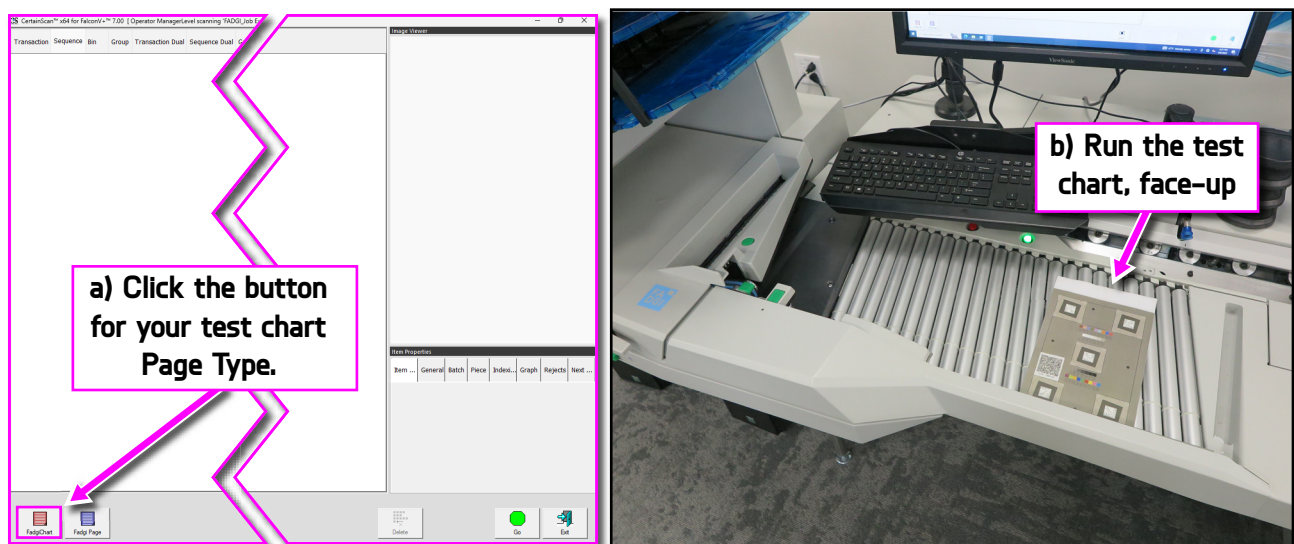

Figure 3-35: Scan the test chart face up
5. Click the button for the test chart Page Type. Scan the test chart face up (Figure 3-35).